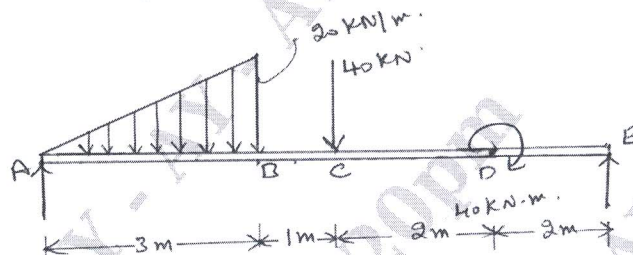

Fig. Q6
- 6 Draw the shear force and bending moment diagram for a beam shown in Fig. Q6. (16 Marks)